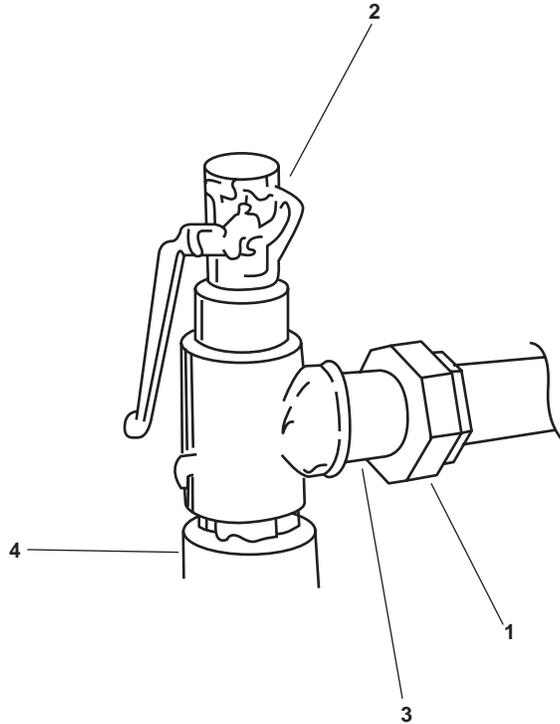

Figure 1. Safety Relief Valve
1. Slowly loosen the outlet union (figure 1, item 1) and allow any trapped pressure to escape.
2. After all pressure has been released, completely disconnect the outlet union (figure 1, item 1) from the OWS safety relief valve (figure 1, item 2).
3. Remove the safety relief valve (figure 1, item 2).
4. Remove the outlet pipe (figure 1, item 3) from the OWS safety relief valve (figure 1, item 2). Retain the outlet pipe for installation.
5. Plug or tape over the open lines and exposed unions on the OWS tank (figure 1, item 4) to prevent contamination of the OWS.
1. Clean the male pipe threads of the outlet pipe (figure 1, item 3) using a wire brush and dry cleaning solvent.
2. Apply antiseizing tape on the male threads of the outlet pipe (figure 1, item 3). Install the outlet pipe into the OWS safety relief valve (figure 1, item 2). Tighten the outlet pipe securely.
3. Apply antiseizing tape on the male threads of the safety relief valve (figure 1, item 2). Thread the safety relief valve into the OWS tank (figure 1, item 4).
4. Connect the outlet union (figure 1, item 1) to the OWS safety relief valve (figure 1, item 2).